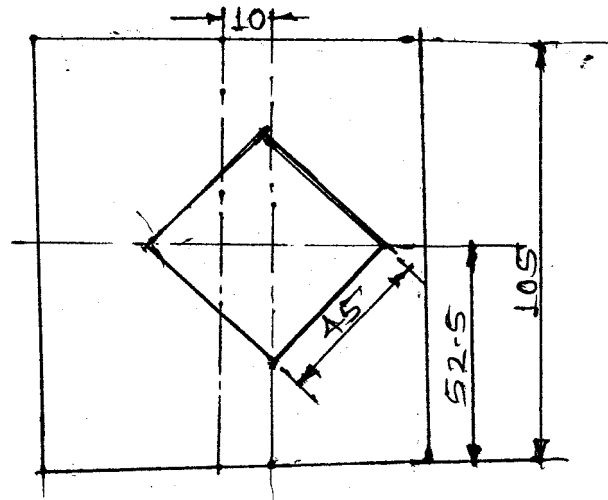

Figure 3 Que. 4 f(ii)
- ii) Figure 3 shows side view of two penetrating solids. State the position of both solids with H.P. and V.P.